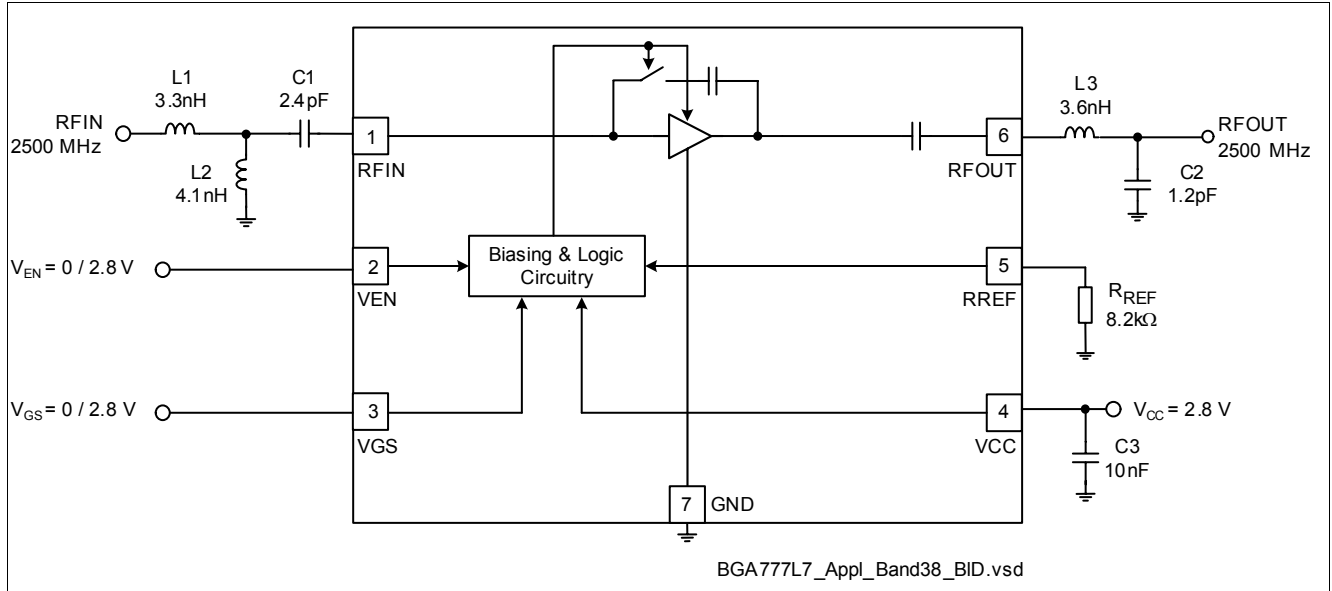

Figure 3 Application circuit with chip outline (top view)
1) Performance based on application circuit in Figure 3 on page 18